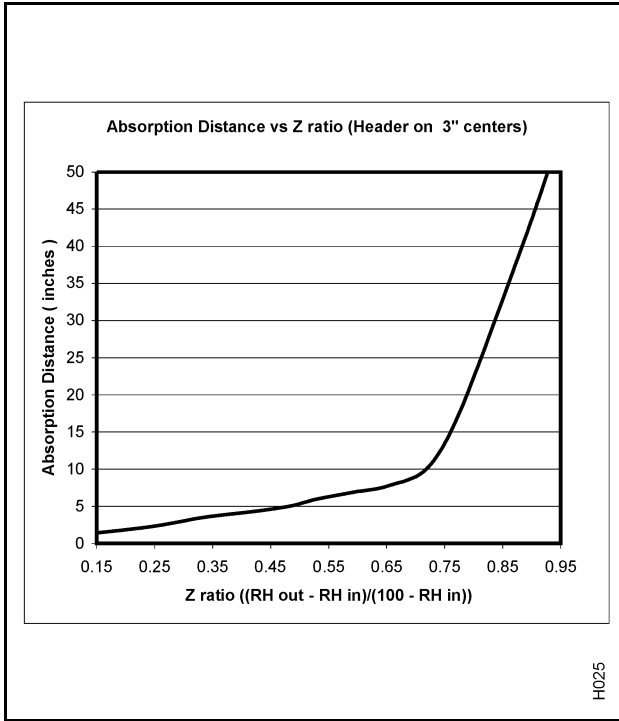

Figure 19. Absorption Distance – 3\" Centers
(6) Absorption Distances:
(7) Reference Figures 19, 20, 21 and 22 to determine the center-to-center spacing required.